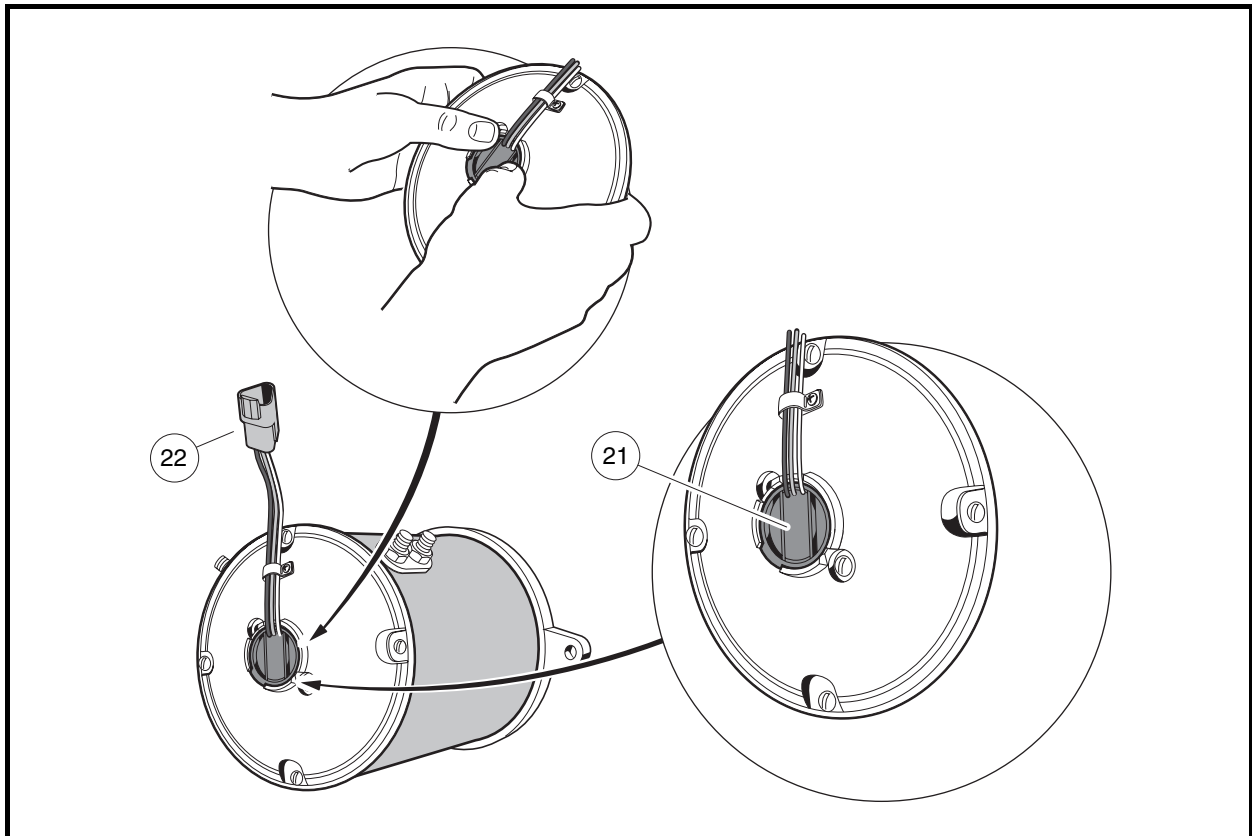

Figure 26-19 Motor Speed Sensor
2. Disconnect the three-pin connector (22) from the vehicle wire harness (**Figure 26-19, Page 26-15**).
3. Using a screwdriver, gently pry the motor speed sensor (21) from recessed area on the motor end shield.
1. Position the motor speed sensor (21) as shown and firmly press the speed sensor into the motor end shield. Sensor should fit flush against the motor (**Figure 26-19, Page 26-15**).
2. Connect the three-pin connector (22) to the vehicle wire harness.